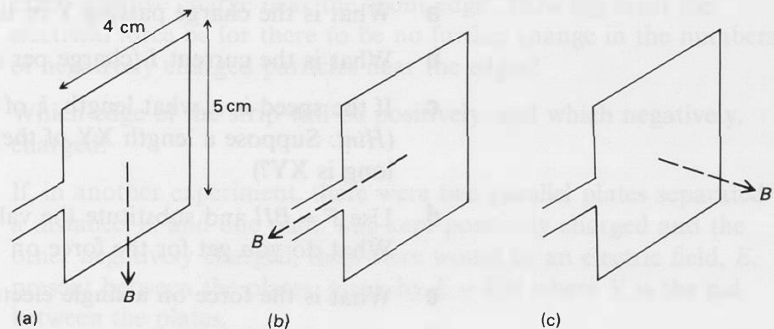

Figure H71
- 4(P)a** A 4 cm by 5 cm rectangular coil having 10 turns is situated in a magnetic field of 0.2 tesla in such a way that the 4 cm sides are perpendicular to the field – figure H71(a). What would be the couple, or torque, on the coil if it carried a current of 1 A?
- What would be the couple if the magnetic field were perpendicular to the 5 cm sides and parallel to the 4 cm sides – figure H71(b)?
- What would be the couple on the coil if the magnetic field were perpendicular to both the 4 cm and the 5 cm sides – figure H71(c)?